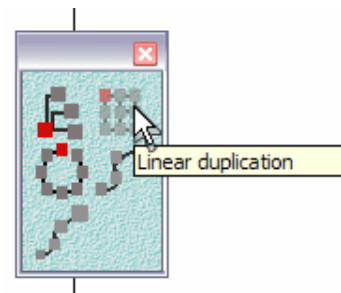

Figure 7-13
- Click on the “Linear Duplication” tool in the fly-out toolbar (Figure 7-13)